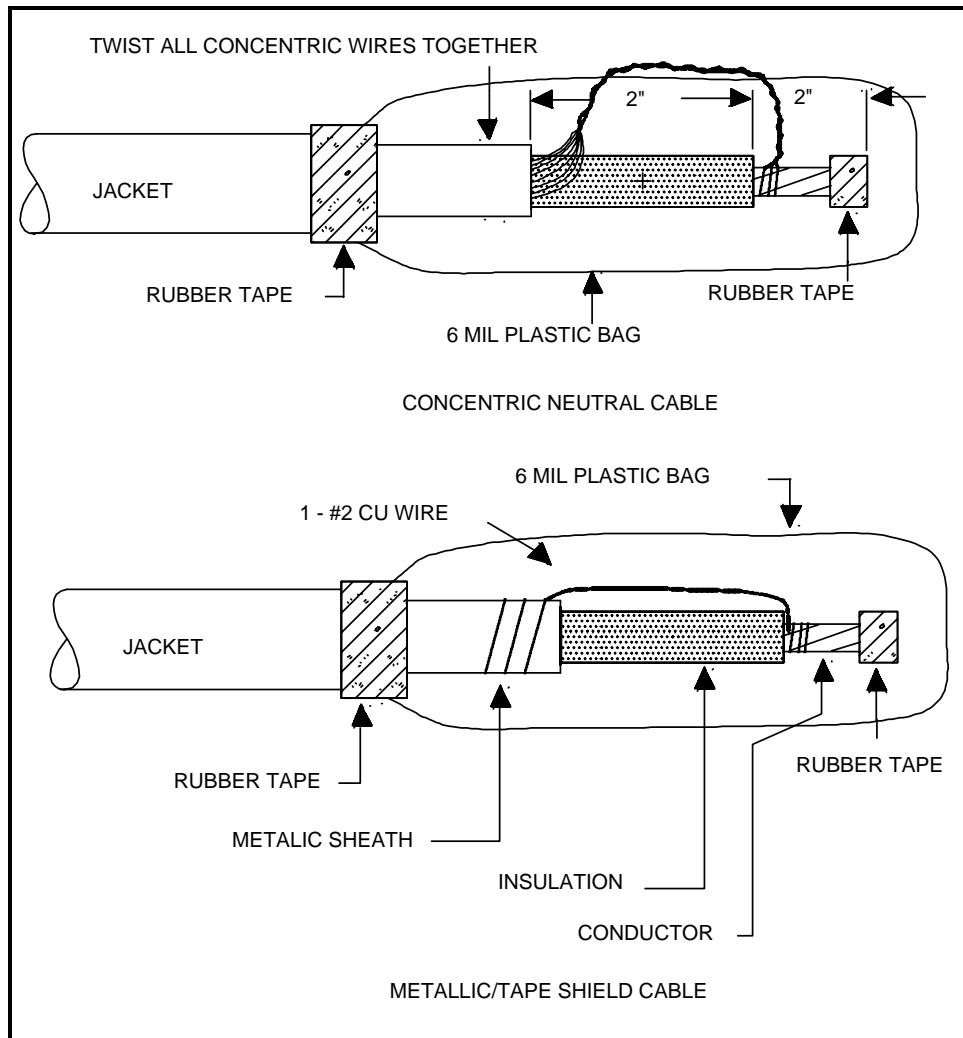

Figure 1 - Cable Ends
4.4 Prepare the Cable End. Refer to Figure 1.